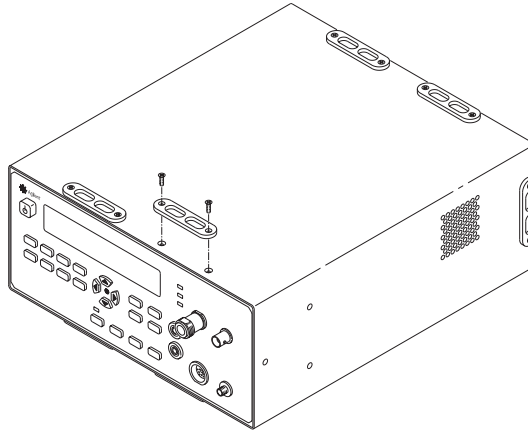

Figure 3-3. Removing the Bumper Retainers
- 2 Use a #1 Phillips screwdriver to remove the two 4-40 x 7/16-inch flathead machine screws that attach each bumper retainer to the chassis (see Figure 3-3).
- 4 Remove the four bumper retainers from the front end of the instrument (see Figure 3-3 and "Removing the Bumper Retainers" on page 3-6).